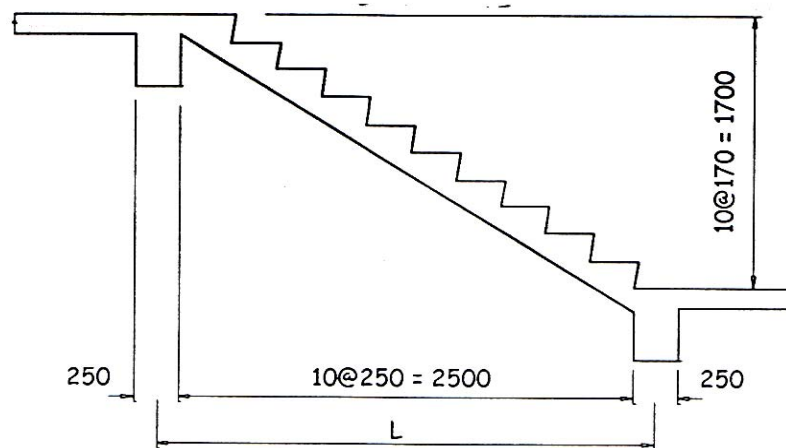

Figure 3.1
3. a) A reinforced concrete staircase is supported by beams at both end as shown in Figure 3.1 below. The platforms at both ends are connected in monolithic with the staircase. Design the staircase using concrete with grade 30 and steel reinforcement with grade 460. The imposed load and finishes are  $4.0 \text{ kN/m}^2$  and  $0.5 \text{ kN/m}^2$  respectively. Concrete cover is 25 mm.